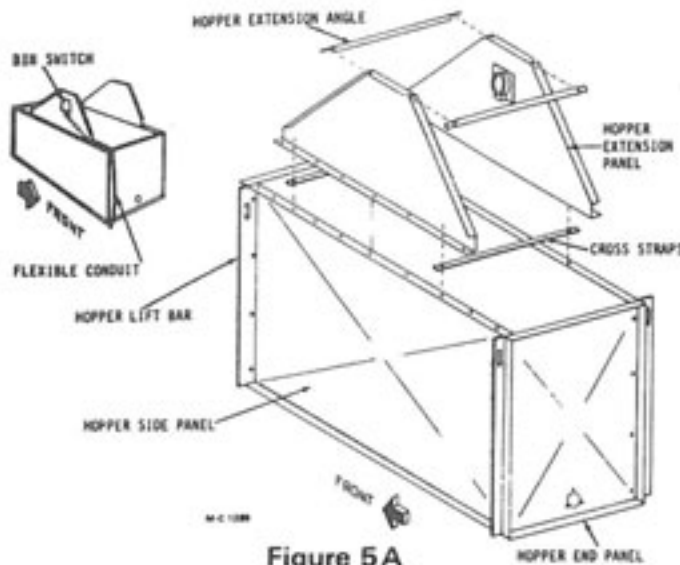

Figure 5A
3. Install the bin level switch (with flexible conduit) to the inside of the right hopper extension panel (see Figure 5A) using $\frac{1}{2}$ -20 x $\frac{1}{2}$ " truss head screws and two-way locknuts.